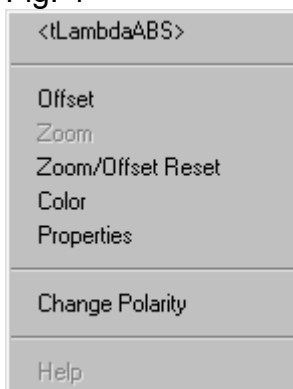

Fig. 5
Now selectable by right mouse click. -> Fig. 5
12. Graphic Y offset (right mouse click) corrected, offset now fully operable. -> Fig. 5